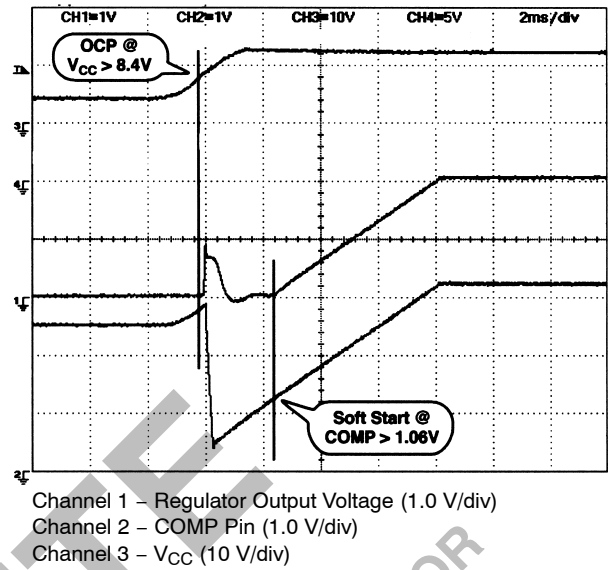

Figure 12. Startup with COMP Pre-Charged to 2.0 V (2.0 ms/div)
If the voltage across the Current Sense resistor generates a voltage difference between the VFB and VOUT pins that exceeds the OVC Comparator Offset Voltage (86 mV typical), the Fault latch is set. This causes the COMP pin to be quickly discharged, turning off GATE(H) and the upper NFET since the voltage on the COMP pin is now less than the 1.1 V PWM comparator offset. The Fault latch is reset when the voltage on the COMP pin decreases below the discharge threshold voltage (0.25 V typical). The COMP capacitor will again begin to charge, and when it exceeds the 1.1 V PWM comparator offset, the regulator output will Soft Start normally (see Figure 12).